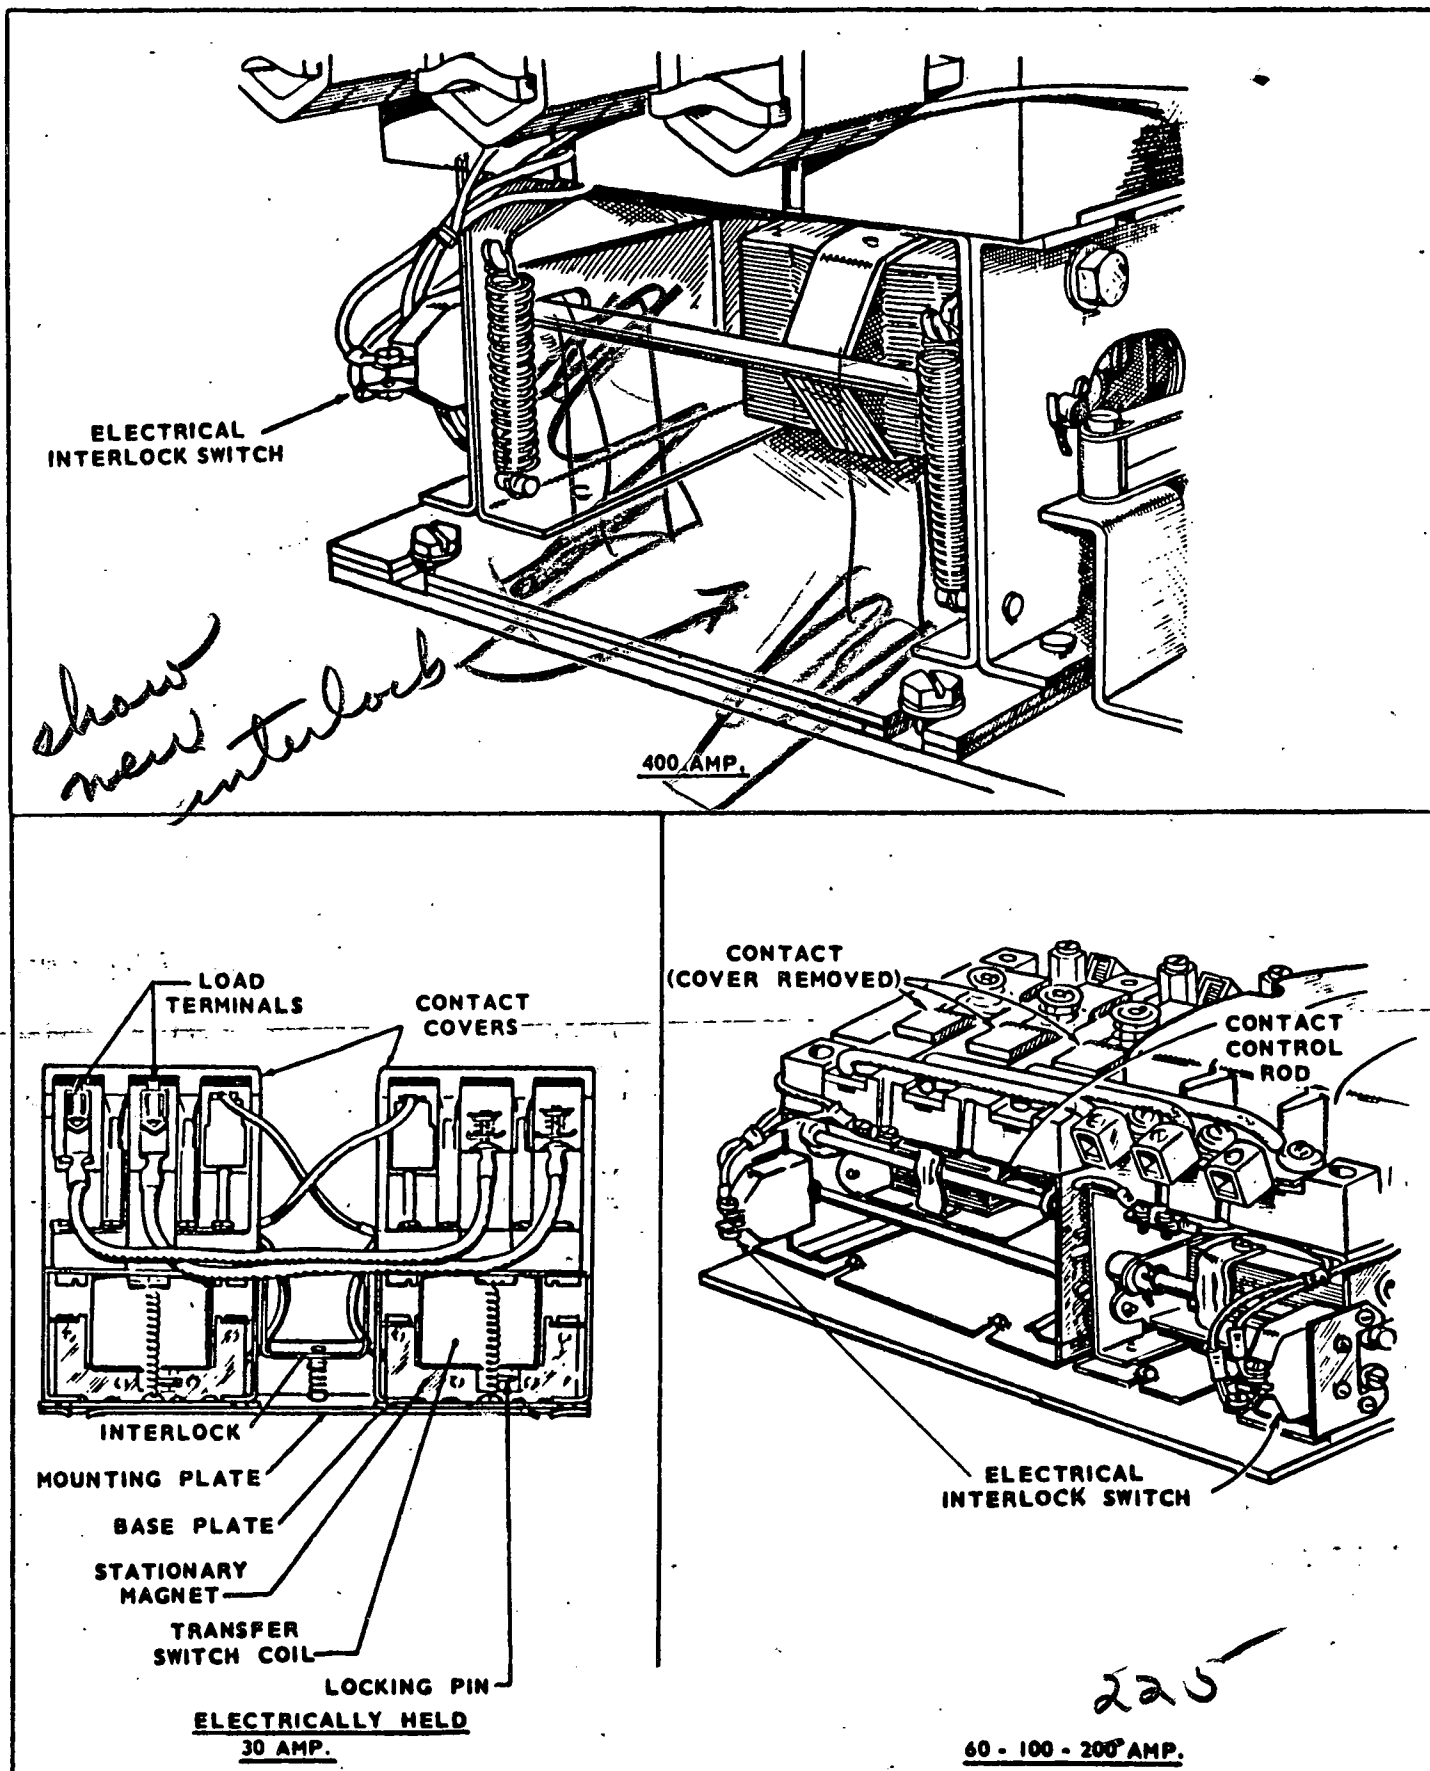

FIGURE 8. TRANSFER SWITCHES
2. Remove the washers and springs (Figure 8).